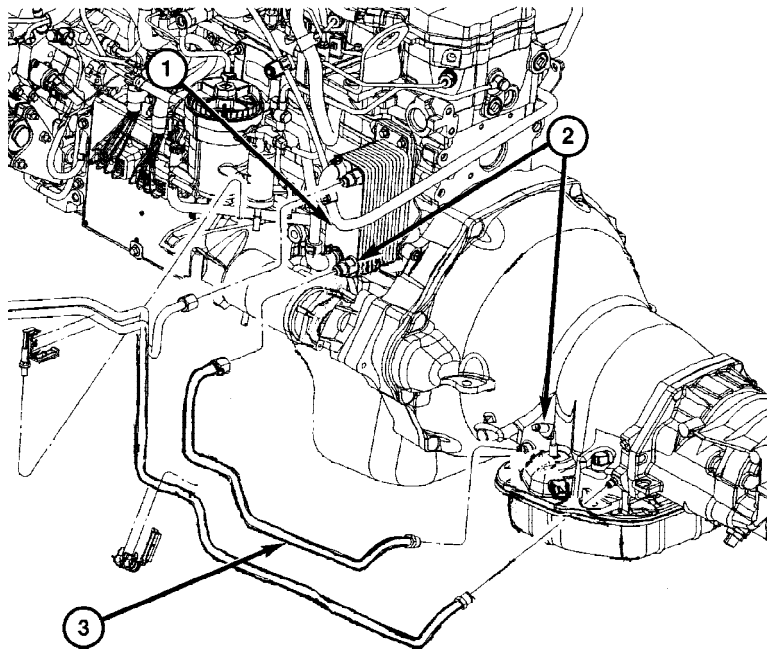

FIGURE 4
7. Disconnect the transmission cooler line from the transmission (Figure 4).
12. Disconnect the transmission cooler line from the engine-mounted transmission cooler (Figure 4).
13. Disconnect the transmission cooler outlet line from the engine-mounted transmission cooler (Figure 4).
27. Connect the new transmission cooler line to the transmission cooler (Figure 4). Hand-start the fitting but do not tighten.
28. Connect the transmission cooler line to the transmission (Figure 4). Hand-start the fitting but do not tighten.